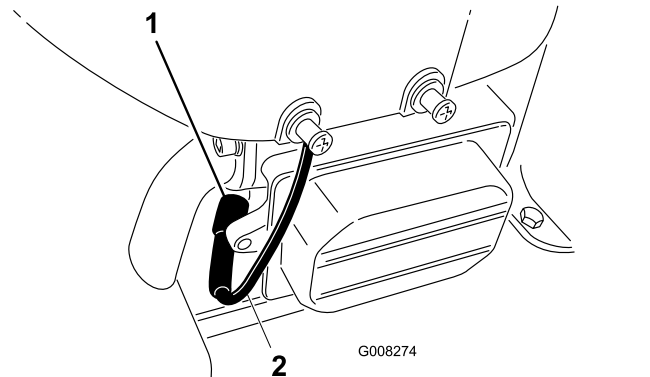

Figure 27
6. Disconnect the wire from the spark plug (Figure 27).
8. Remove the spark plug and the metal washer (Figure 27).
3. Connect the wire to the spark plug (Figure 27).